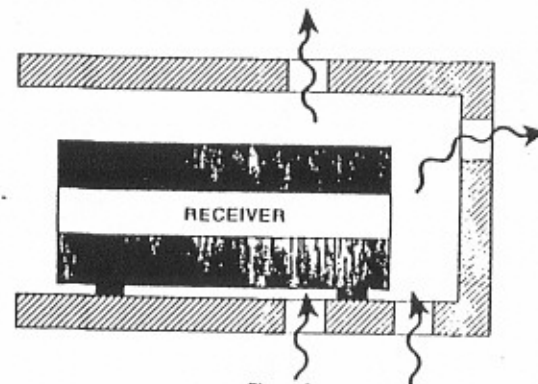

Figure 2
1. Although the BOSE Spatial Control™ Receiver generates little heat, it does need a certain amount of ventilation. If you place your receiver in a cabinet, make certain that it has adequate ventilation. See Figure 2.